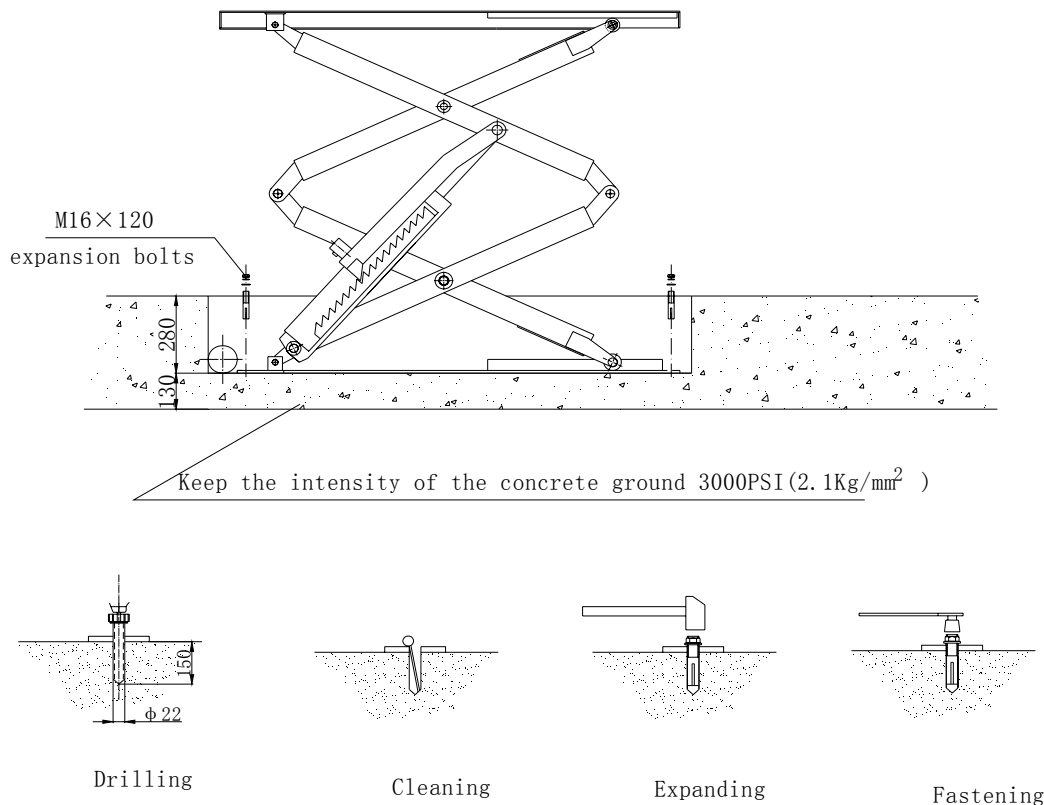

Fig10
- With the help of the holes on the base plate, drill and install the anchor bolts. In the process of drilling, make sure that there is no movement at the base frames. Fasten the base frames of the lift to the pits with 8 M16*120 (M0.63"X4.7") anchor bolts. (Fig.10)